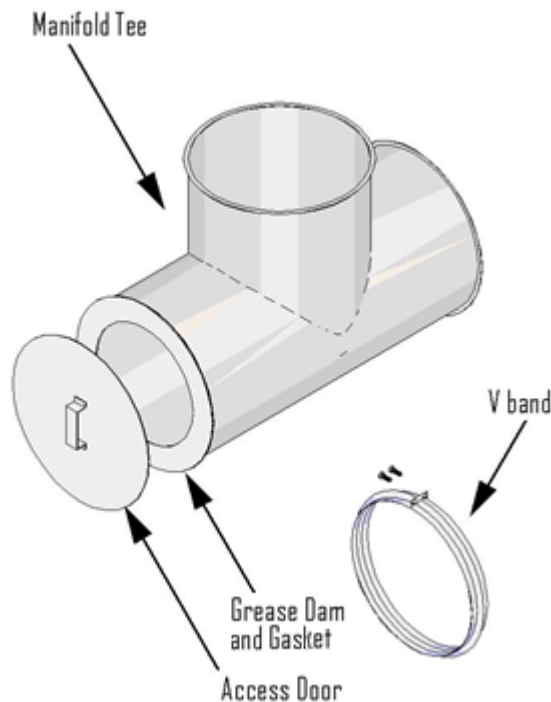

Figure 2. Access Door Assembly
- B. ACCESS DOOR – When required, use the duct manufacturer's manifold tee and access door (tee cap) assembly (see Figure 2). Apply a 1/4 in. continuous bead of sealant (Item 2A) to the flange of the tee on the side where access door is to be located. Center the supplied grease dam over the opening of the tee. Verify that the grease dam is